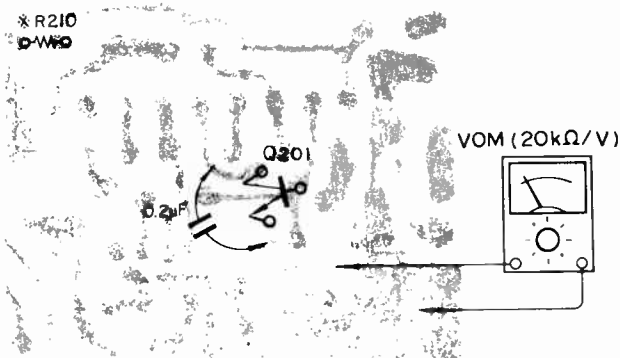

Fig. 3-19.
1. Connect a $0.2\mu\text{F}$ ceramic capacitor across emitter and collector of transistor Q201 as shown in Fig. 3-19.